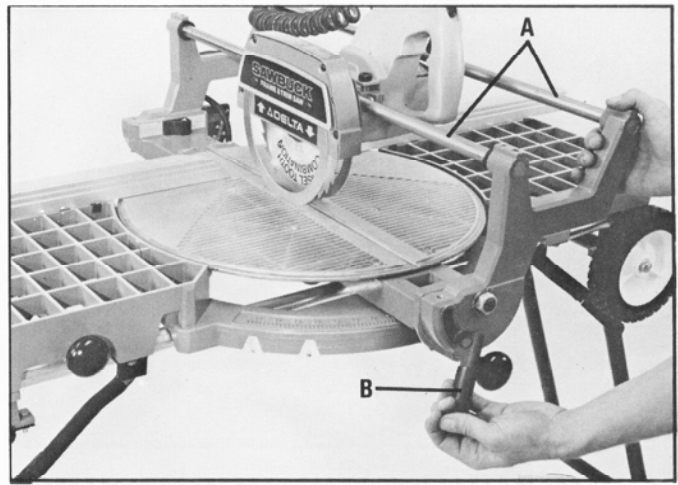

Fig. 28
1. Move the track arm (A) to the straight cut-off position, as shown in Fig. 28. Lift up the tilt lever (B) and tilt the arm all the way to the right until it comes into contact with the stop. Do not tighten tilt lever (B).